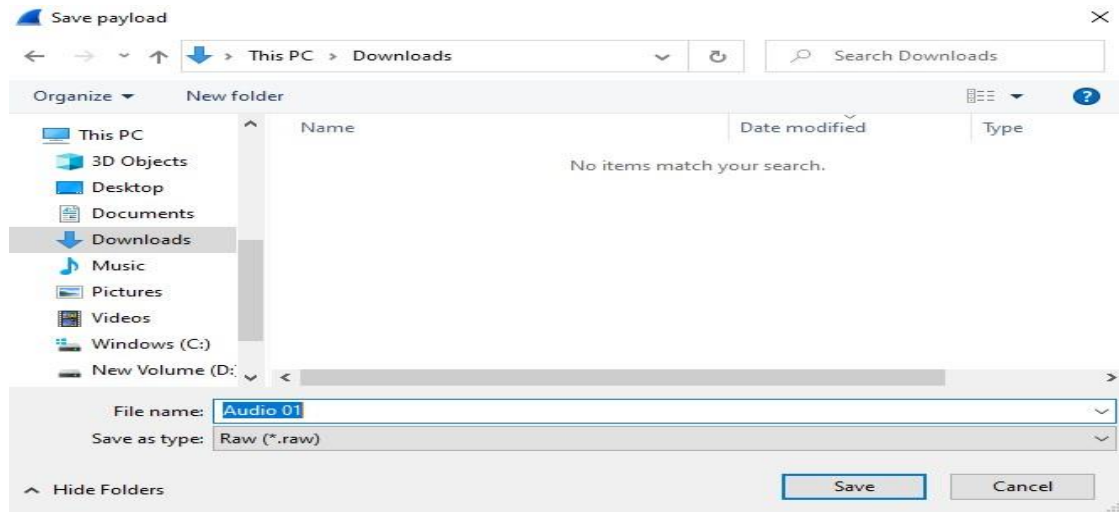

Figure 48: Save Data process
- 17 To save the data on Desktop select the file type as RAW, enter the desired file name, choose the save location, and save the file as shown in Figure 48.